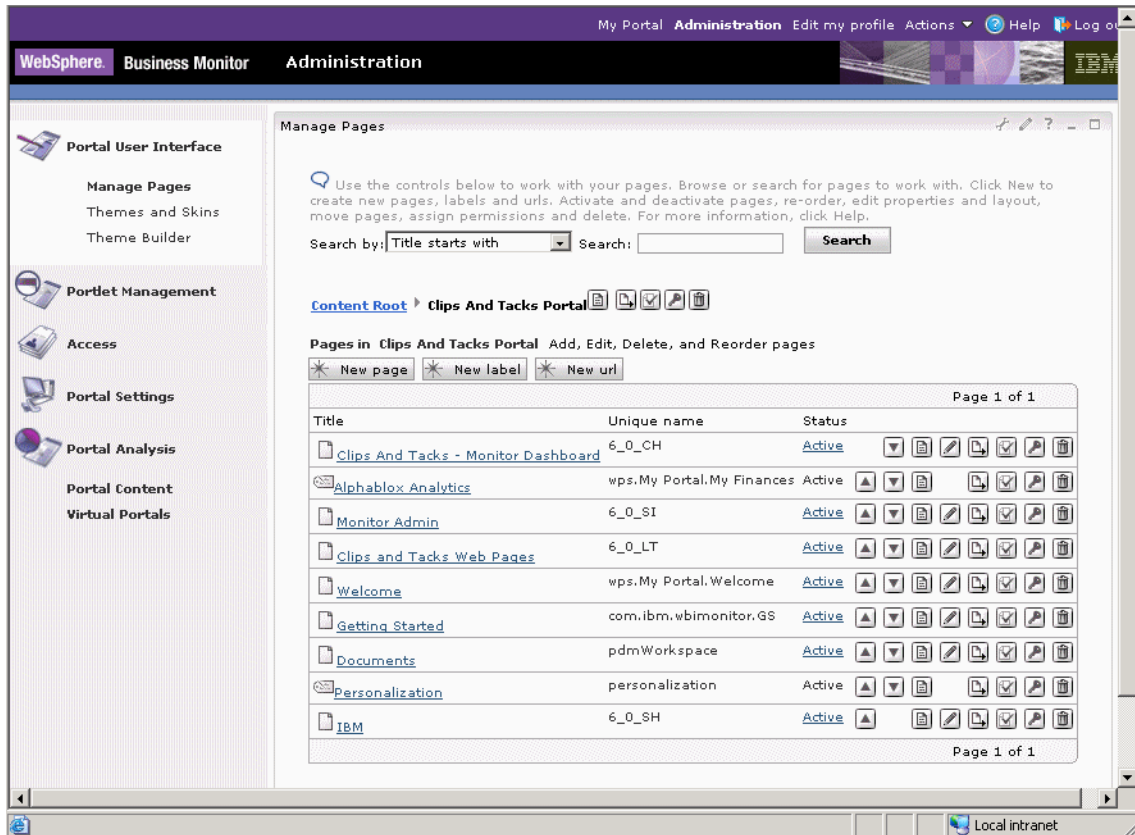

Figure 12-27 Sample ClipsAndTacks portal page administration
- ▶ Select the new portal and create sub-pages for your customization. Our customization is shown in Figure 12-27.